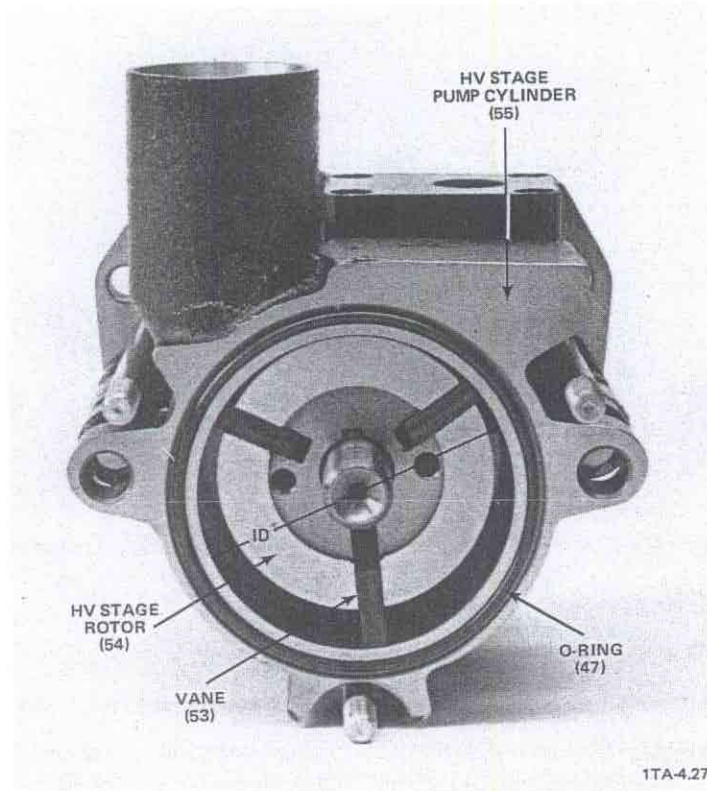
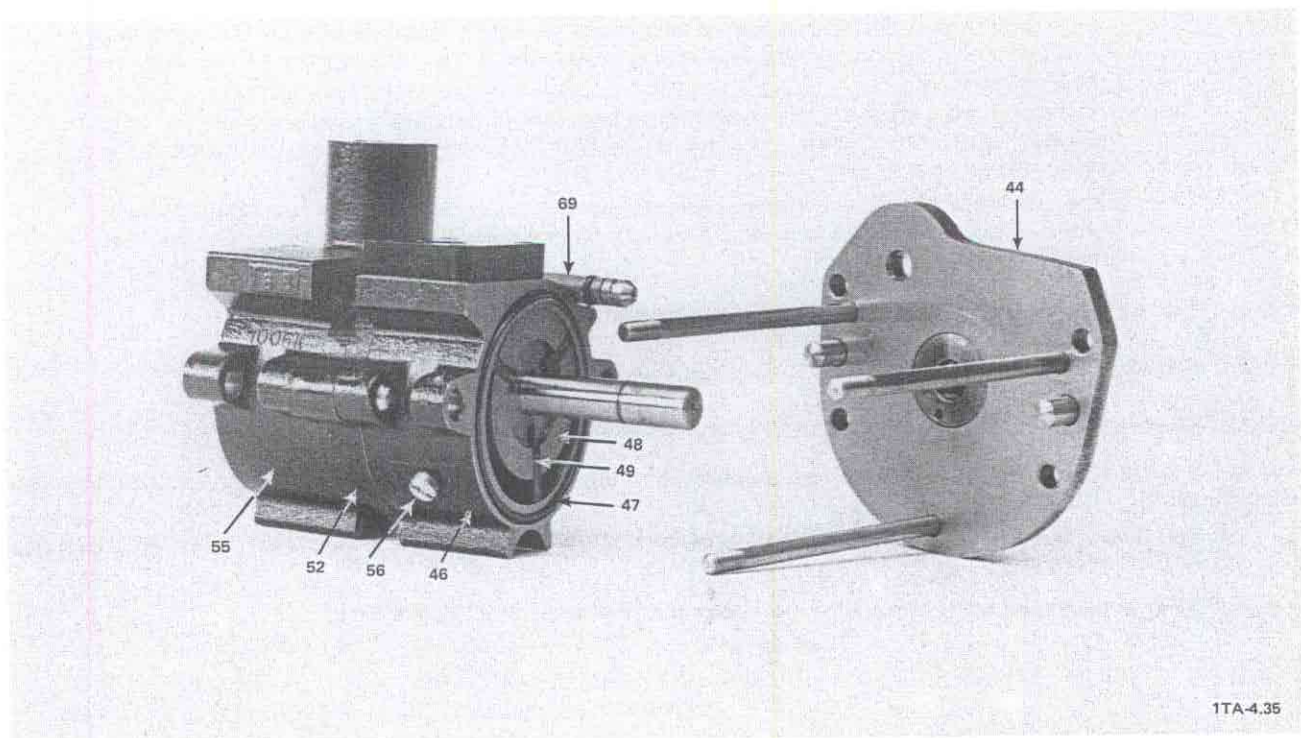
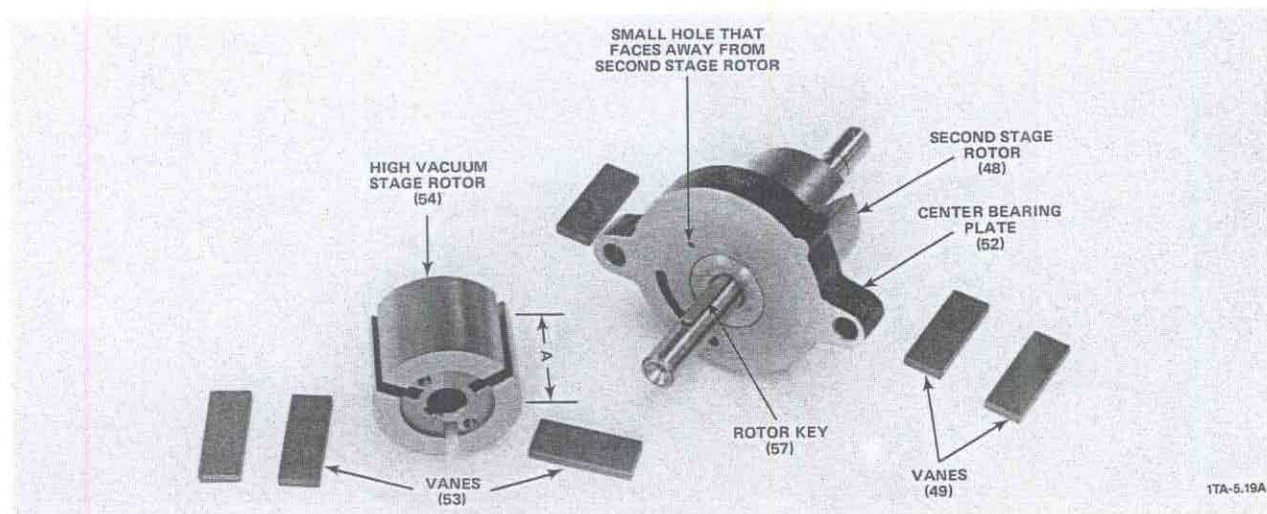

Figure 5-7. High Vacuum (HV) Stage Pump Cylinder (D2A Pump Model Shown)
Figure 5-8. Second Stage Pump Cylinder (D2A Pump Model Shown)
Figure 5-9. High Vacuum Stage Rotor Removed From the Shaft (D2A Pump Model Shown)
**REQUIRED ACTION:** Using long nose pliers, remove the three vanes (53) from the high vacuum rotor (54). (See Figure 5-7).
- C-12** Remove the high vacuum stage pump cylinder (55) to expose the high vacuum rotor (54) and the center bearing (52). Remove the O-rings (47) from both sides of this pump cylinder (see Figure 5-7).
- C-13** Remove the front end plate (44) from the motor side of the shaft (see Figure 5-8).
- C-15** Remove the second stage pump cylinder (46) to expose the second stage rotor (48). Remove the O-rings (47) from both sides of this cylinder (see Figure 5-8).
- C-16** Repeat Step C-11, except remove the vanes (49) from the second stage rotor (48). (See Figure 5-8).
- REQUIRED ACTION:** Using a puller or a prying device, remove the high vacuum stage rotor (54) from the shaft.
- NOTE:** Two threaded metric pulling holes are located in the outside end of the high vacuum rotor (54) for use with a puller (see Figure 5-7).
- NOTE:** The second stage rotor (48) and the shaft are permanently attached to each other on the D2A, D4A, D8A, and D16A pump models.
- C-18** Using small diagonal cutting pliers, pull the high-vacuum-stage rotor key (57) from the slot in the shaft (see Figure 5-9).
- C-19** Slide the center bearing (52) off of the shaft (see Figure 5-9).
NOTE: For use during reassembly, the ends of the threaded studs (62) that have the shorter threaded section screw into the front end plate (44) (see Figure 5-8). During reassembly, the threaded studs should be screwed until they are tight in the front end plate.
- d. **For D30A, D60A, and D90A pump models only,** clean the brass air nozzle screw (66) located inside of the intake tube portion of the high vacuum pump cylinder (55).
- e. The tiny silencing hole in the side of the gas ballast valve (17) stem just **below** the bolting flange - use fine wire to clear any dirt from the hole; **DO NOT ENLARGE THE HOLE.**
- E-4. Using a brush, thoroughly clean the center bearing (52). (See Figure 5-9.)
- E-5. Clean all dirt accumulation or buildup from the three vane slots in each rotor (48/54). (See Figure 5-9.)
- a. The ends of each rotor (48/54) may be wearing against the inside surface of the front (44) and rear (60) end plates or against the center bearing (52). Inspect these surfaces for gouges and wear (see Figure 5-8). If you observe scoring or wear, proceed as follows:
- (1) Replace the plate that is scored.
- (2) Check the rotors for burrs. If burrs are found, sand or file them smooth.
- (3) Using calipers or micrometers, measure the length of each rotor (Dimension A of Figure 5-9). If the length dimension of either rotor is less than the dimension listed for your pump model in Table 5-1 (on the following page), replace that rotor.